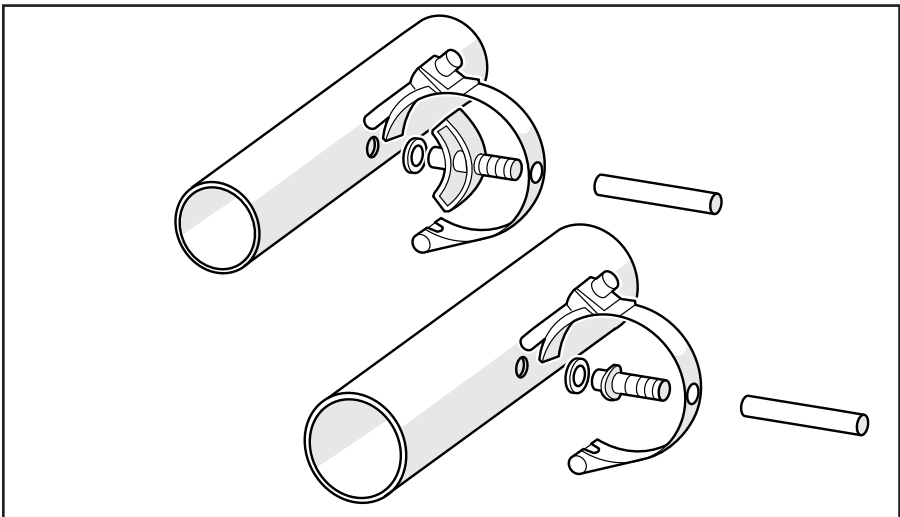

Figure 6. Connecting Hardware
14. Place a gasket on the pipe-side of the proper nipple and put the nipple through the hole in the pipe clamp (Figure 6).
18. Place a gasket on the pipe-side of the proper nipple and put the nipple through the hole in the pipe clamp (Figure 6).